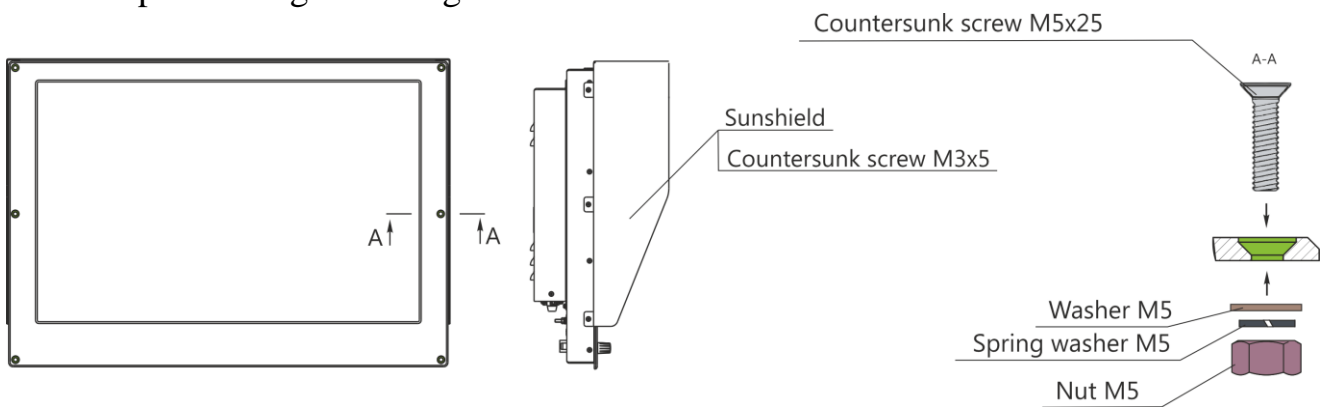

Figure 3 – Panel mounting with outside fasteners
The Product may have various types of mounting depending on a particular order. For all types of mounting a sunshield is mounted using screws delivered in the mounting kit. For desk-top or wall mounting of the Products with the diagonal more than 21" vibration isolators are provided. Types of mounting are shown in figures 3 – 7.
1) Panel mounting with outside fasteners (see figure 3) ensures fastening from the front panel using mounting kit of metal ware.